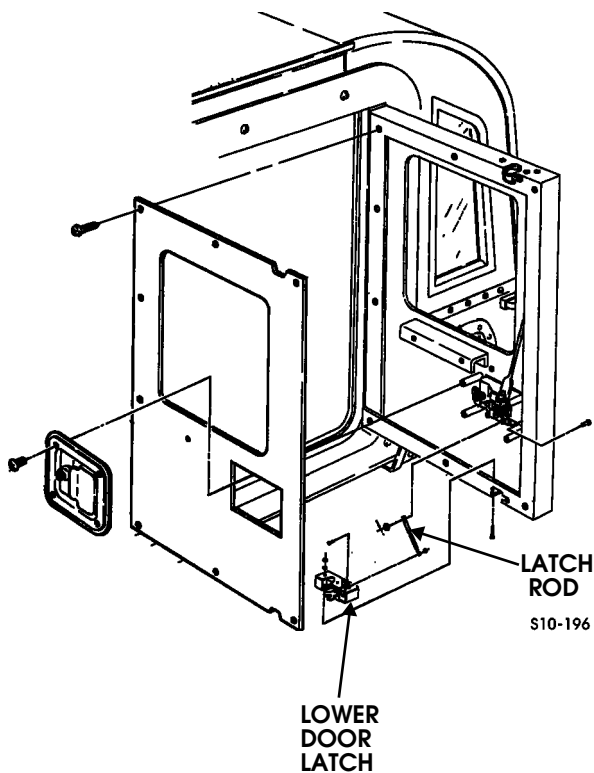

Figure 10-156: Door Latch and Latch Rod Replacement
2. Remove four screws and interior door handle from door (Figure 10-156).
1. Secure lower door latch to door with three screws, lockwashers, and nuts (Figure 10-156).
3. Secure close-out panel to door with twelve screws (Figure 10-156).